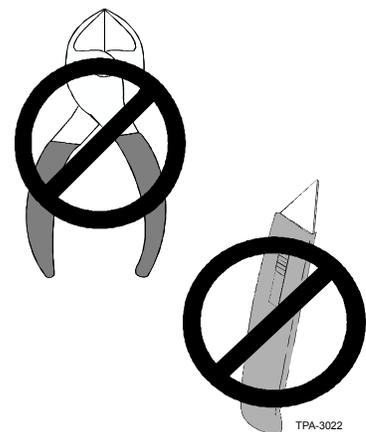

Figure 5
- Step 1: Remove the grommets from the unit and pierce them with needle-nose pliers (Figure 5).